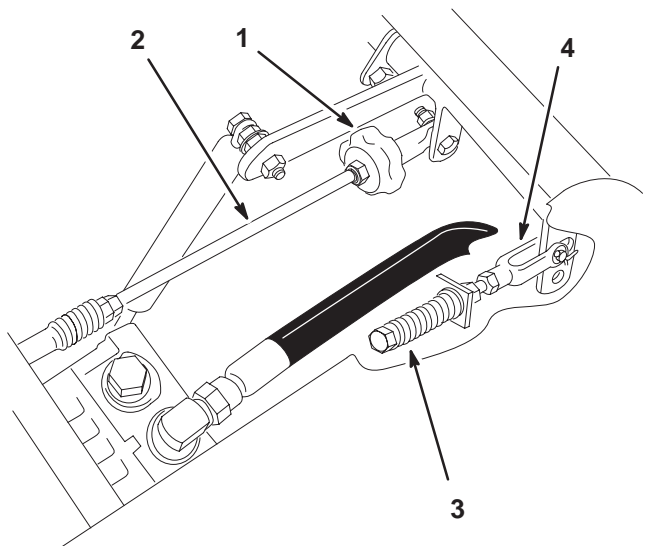

Figure 58
2. Adjust the pump rod length by rotating the knob, in the appropriate direction, until the wheel is still or slightly creeping in reverse (Fig. 58).